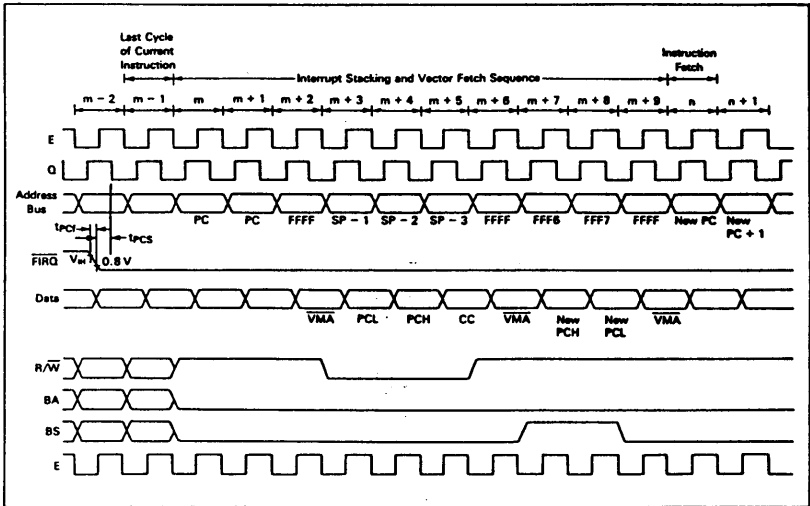

Figure 7. FIRQ Interrupt Timing
A low level on  $\overline{\text{FIRQ}}$  input will initiate a fast interrupt sequence provided its mask bit (F) in the CC is clear. This sequence has priority over the standard interrupt request ( $\overline{\text{IRQ}}$ ). It is fast in the sense that it stacks only the contents of the condition code register and the program counter. The interrupt service routine should clear the source of the interrupt before doing an RTI. See figure 7.